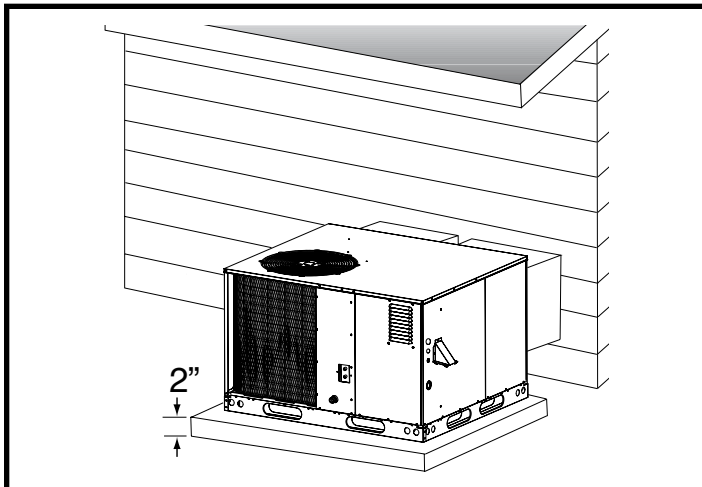

Figure 4. Ground Level Installation
- A suitable mounting pad must be provided and be separate from the building foundation. The pad must be level to ensure proper condensate disposal and strong enough to support the unit's weight. The slab height must be a minimum of 2" (5cm) above grade and with adequate drainage. See Figure 4 \(page 10\).